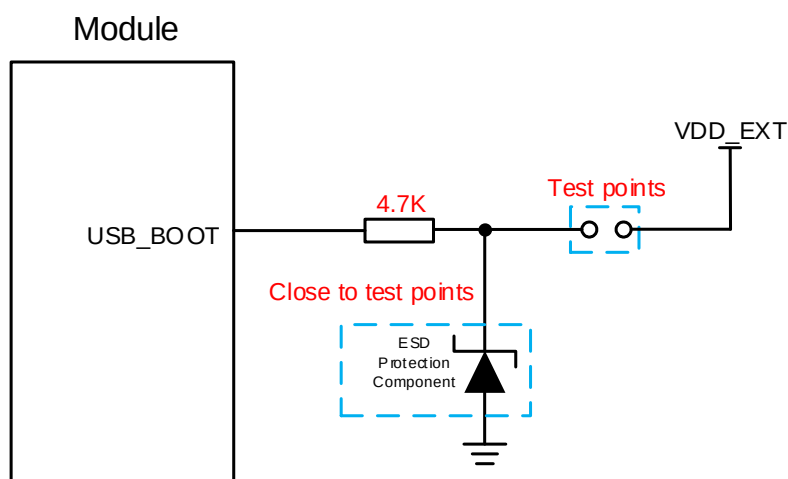

Figure 29: Reference Circuit of USB_BOOT Interface
2. When using MCU to control module to enter the emergency download mode, please follow the above timing sequence. It is not recommended to pull up USB_BOOT to 1.8 V before powering up VBAT. Directly connect the test points as shown in **Figure 29** can manually force the module to enter download mode.